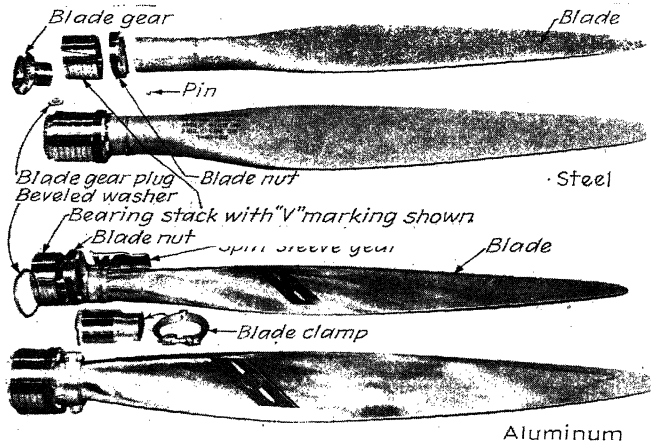

FIG. 57.—General construction of Curtiss steel and aluminum blades.
*Disassembly of Aluminum Alloy Blades* (Fig. 57).—Remove the nut from the blade gear clamp bolt and remove the clamp. If it is not a hinged clamp, screw it off the blade gear sleeve and slide it out on the blade, being careful not to nick the blade.
*Disassembly of Hollow Steel Blades* (Fig. 57).—Tap the bearing stack toward the blade tip, using brass or aluminum blocks to cushion the blows, until the pin through the blade and blade gear is exposed.
**Aluminum Alloy Blades** (Fig. 57).—Lay the blade on a clean assembly bench with the shank overhanging the edge of the bench.
**Steel Blades** (Fig. 57).—Lay the blade on a clean assembly bench with the shank overhanging the edge of the bench.